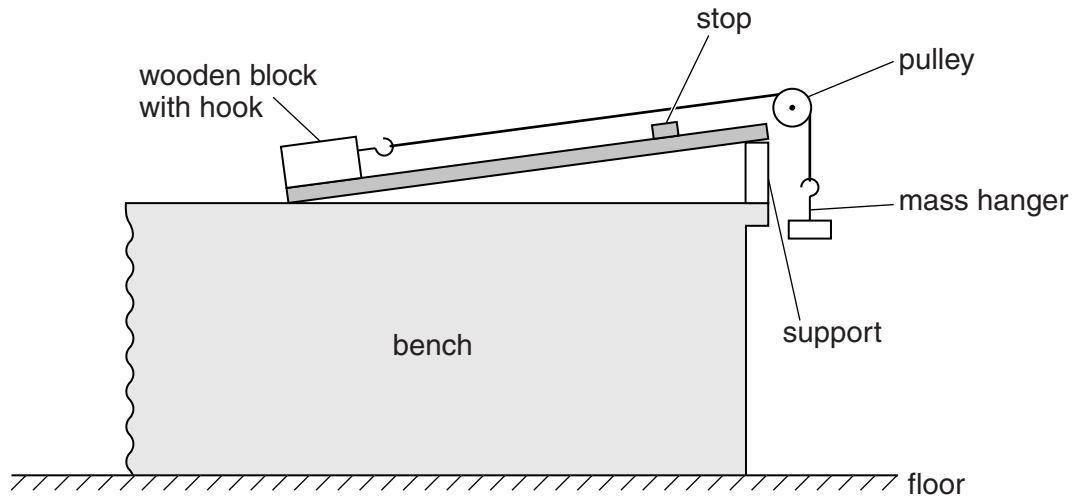

Fig. 3.2
5. One end of the thin string should be tied to the hook and the other end should be tied to the mass hanger. The length of the string should be chosen so that, when the block is in the position shown in Fig. 3.2, the mass hanger is just below the pulley. The apparatus should then be assembled as shown in Fig. 3.2. The height of the pulley should be adjusted so that the string is parallel to the ramp.
7. At the changeover, the Supervisor should remove any masses from the mass hanger and should ensure that the apparatus is still set up as shown in Fig. 3.2.